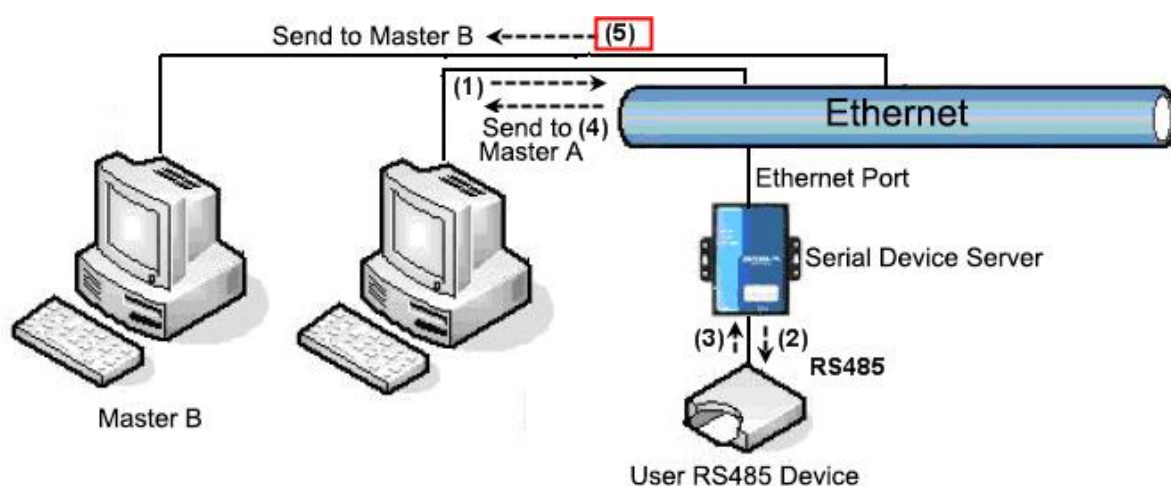

Figure 48 Multi-host Function Demonstration
As shown in figure 48, in common mode, when the two hosts: host A and host B connect the serial device server at the same time, host A send (1) instruction, RS485 device received (2) instruction, RS485 device return (3) instruction, but at the Ethernet port of the serial device server it will send (4) to host A and (5) to host B at the same time. Because host B didn't sent query but receives the reply order (5), it may cause communication error. In multi-host mode, there only have the instruction (4) without (5), as the serial device server will automatically remember the host required return, only return the instruction to the recent communication host, as host A query only return to A, host B query only return to host B.